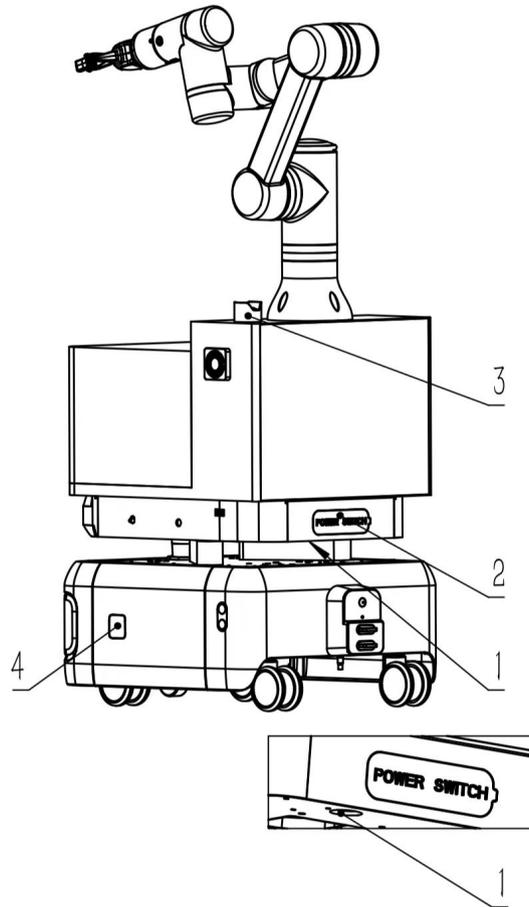

Figure 1: LM3UP robot
- **Maintenance Operations:** Disconnect the power supply (power supply as shown in figure 1) before maintenance and wait for all movements to stop.
- **Power On:** Turn on the main power switch (The position 2 as shown in figure 1), press the power button (The position 1 as shown in figure 1), and hear two short and one long beep to start the power on.
- **Power Off:** Long press the power button (The position 1 as shown in figure 1) and hear seven short and one long beep for power off, then close the main power switch (The position 2 as shown in figure 1).